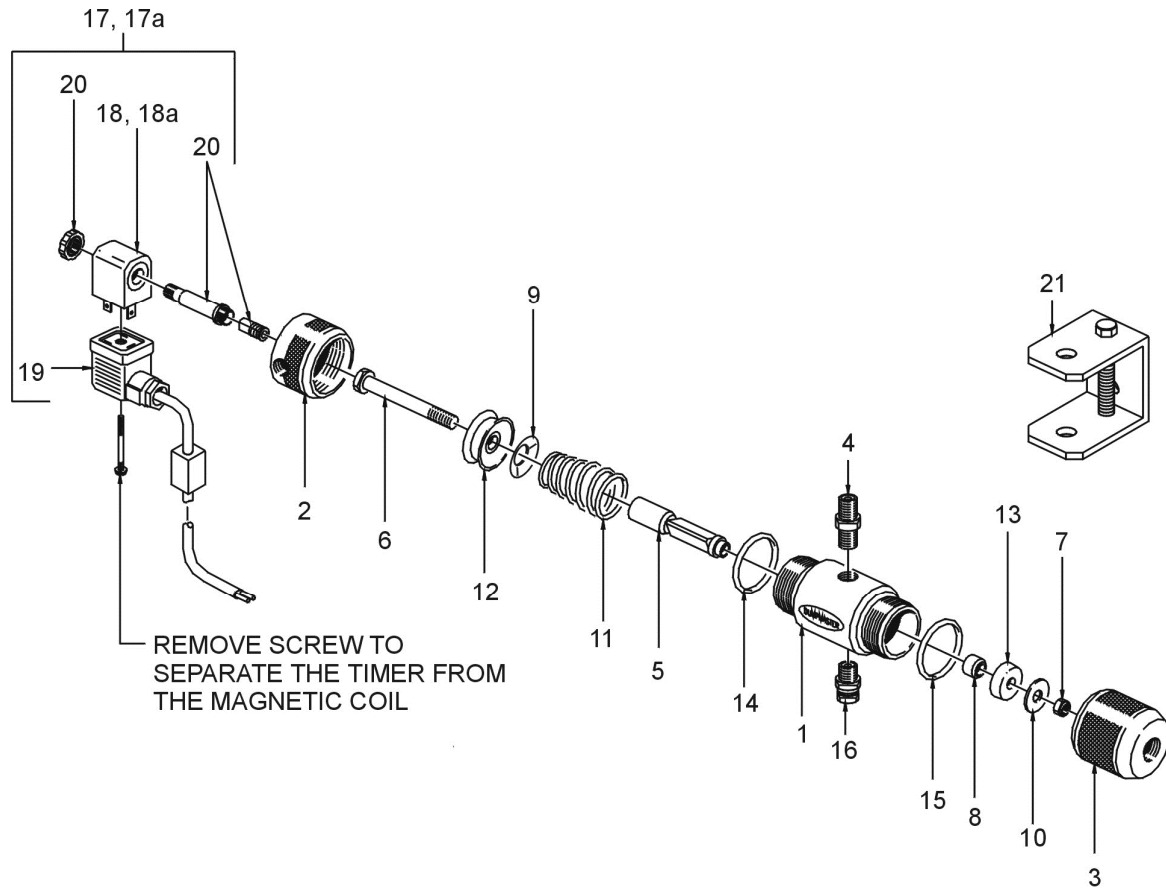
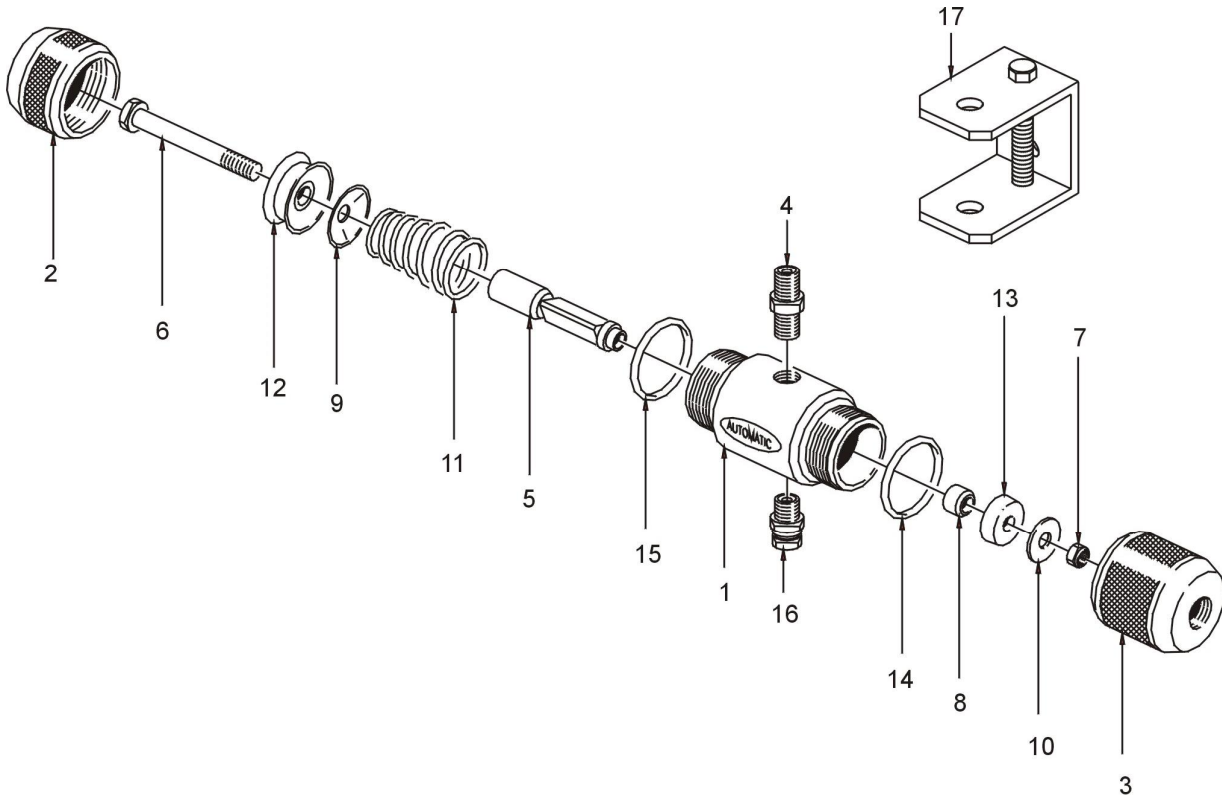

Figure 17 DumpMaster® EXT-50 Drain Valve
Figure 18 DumpMaster® XD-30 Drain Valve
9. Assemble the components in the same order as noted on disassembly (refer Figure 17 and Figure 18). Tighten the Locknut (XD-07) to 30 inch pounds (2.5 ft.lbs or 3.5Nm).
11. Grease and fit both O-rings (XD-14 and XD-15) to the DumpMaster® Drain Valve Body (XD-01). Refer Figure 17 and Figure 18.